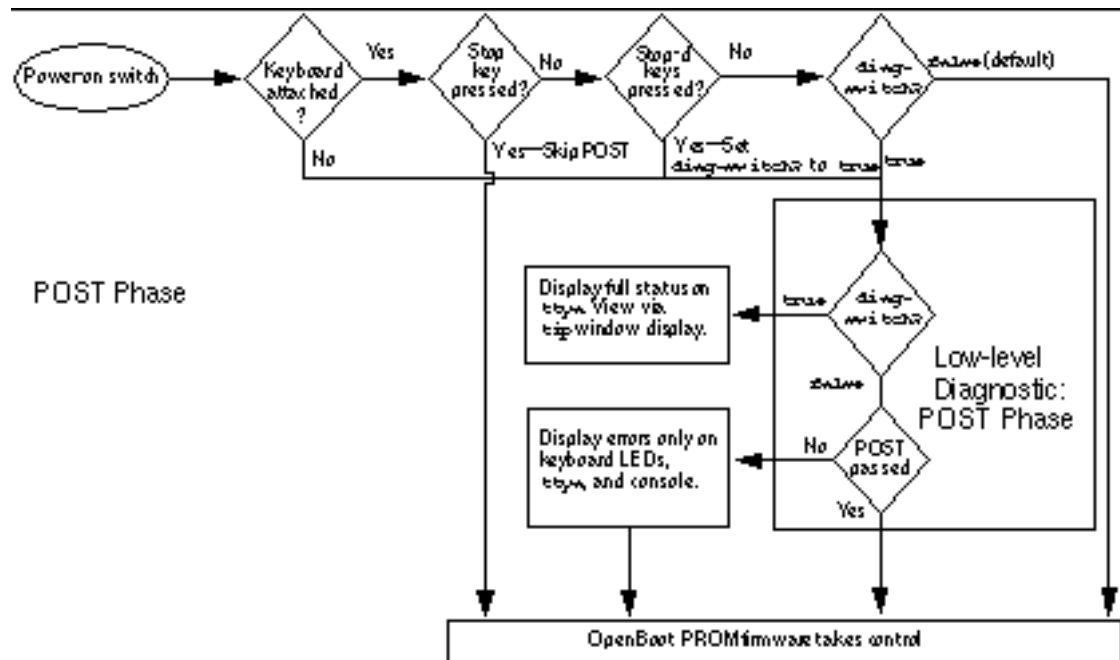
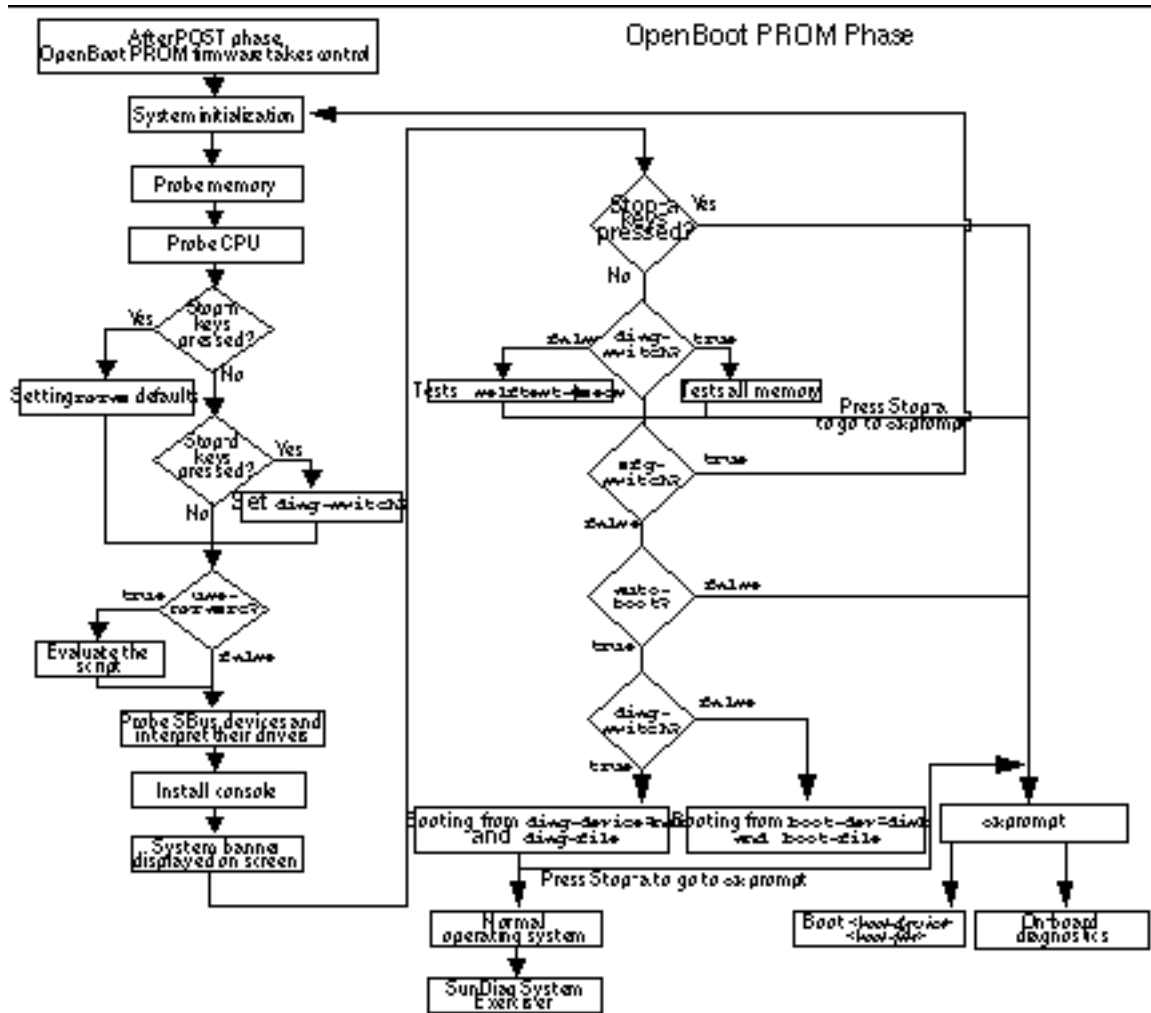

Figure 2-1 Factory-Defined Boot Sequence—POST Phase Settings and Tests
Figure 2-2 Factory-Defined Boot Sequence—OpenBoot PROM Phase Settings and Tests
The flowcharts in Figure 2-1 and Figure 2-2 outline the various diagnostics during a *factory-defined boot* operation under the control of the OpenBoot™ PROM (OBP) firmware.
Figure 2-1 (POST phase) and Figure 2-2 (OBP phase) depict the flow of OBP processing control, after power is switched on. Each figure diagrams the possible paths for processing control, and the switch settings for the factory-defined boot
- Install the console (see Figure 2-2)